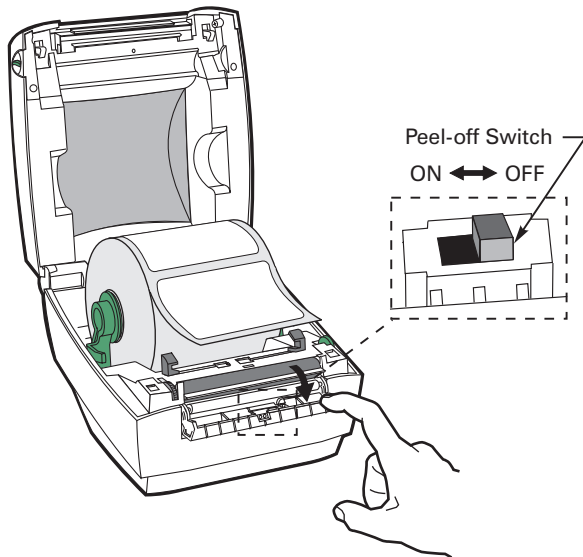

Figure 11
4. Open the peel-off unit by pulling down on its textured top surface (refer to Figure 11).
5. Activate the peel-off unit by moving the peel-off switch to the left (refer to Figure 11 inset).